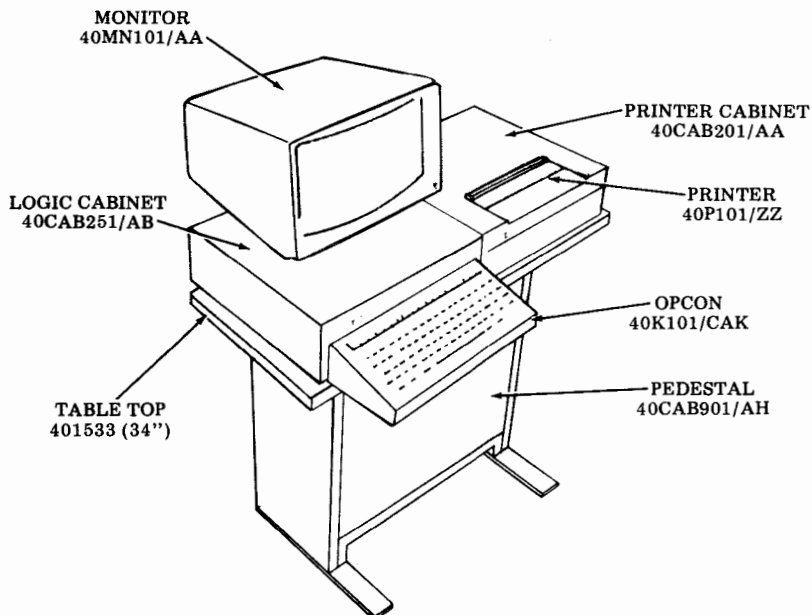

Fig. 8
3.07 Keyboard Display Printer (KDP) Set on Same Top and Pedestal (Fig. 8)